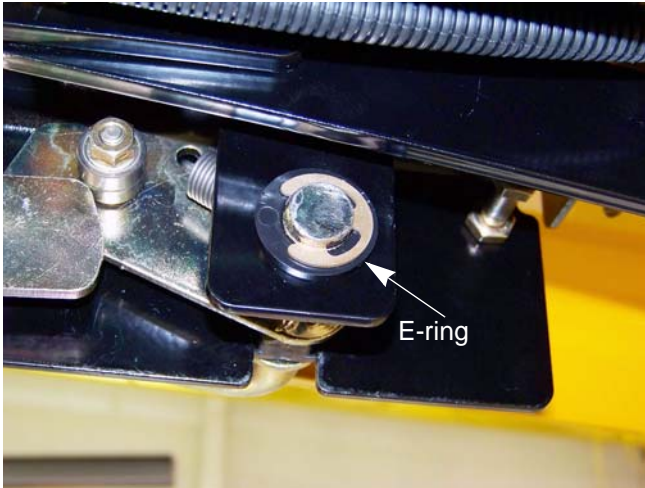

Figure 5.28
6. Remove the E-ring and washer from the reverse pedal shaft. See Figure 5.28.